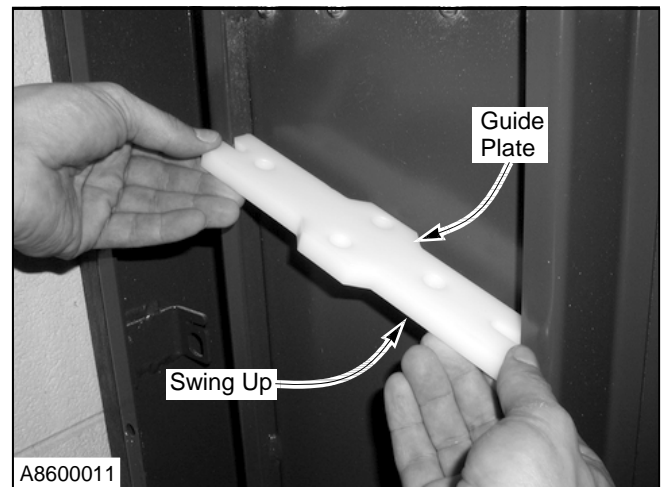

Figure 17
4. Swing guide plate up for installation. (See Figure 17.)